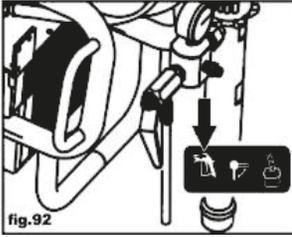

fig.92
-Turn "prime/spray switch to "spray" (fig.92)